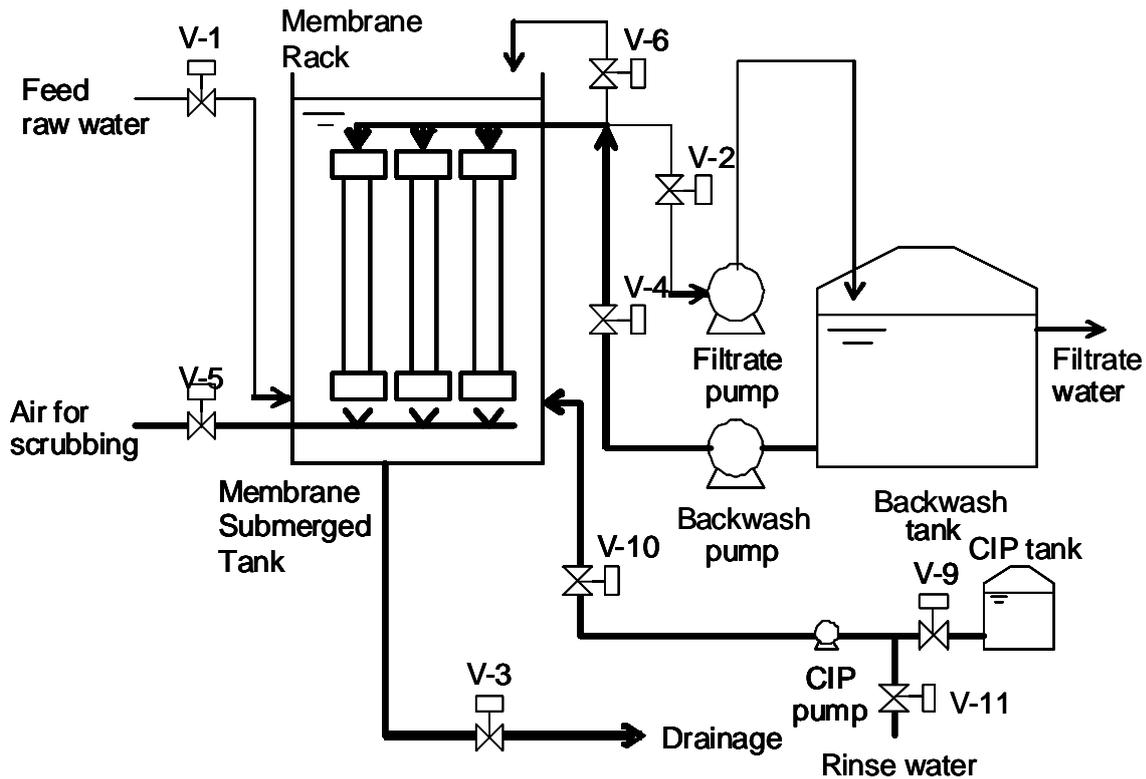

Fig. 18 Flow diagram for chemical cleaning
- (1) The flow diagram for cleaning simultaneously both outer surface and inside of hollow fiber membranes is shown in Fig. 18. The flow diagram can be changed case by case. Please contact us if you need the information in detail.
- (2) After making sure the Backwash and Air-scrubbing process is just finished, open the drainage valve (V-3) and the air drain valve (V-6) to drain water of the submerged tank and the element.
- (3) After making sure all water of the submerged tank is drained, close the drainage valve (V-3).
- (4) Open the Chemical valve (V-9) and the Cleaning In Place (CIP) valve (V-10) and run the CIP pump to feed the chemical to the submerged tank.
- (5) After making sure the chemical level of the submerged tank is higher than the top of the membrane element, stop the CIP pump, close the Chemical valve (V-9) and the CIP valve (V-10) and hold the chemical for a fixed time (normally 2 hours). During the soak, open the air-scrubbing valve (V-5) a few times (normally every 30 minutes and each scrubbing time is 1 minute). In case of the chemical cleaning efficiency is not high, a chemical circulation process from feed side to filtrate side (not shown in the figure) instead of the soak is available.